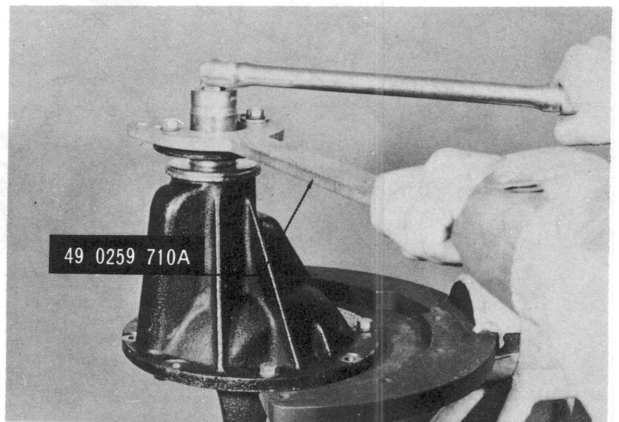

Fig. 9-23 Removing pinion nut
2. Using the **companion flange holder** (Part No. 49 0259 710A) shown in Fig. 9-23, remove the pinion nut and remove the companion flange.